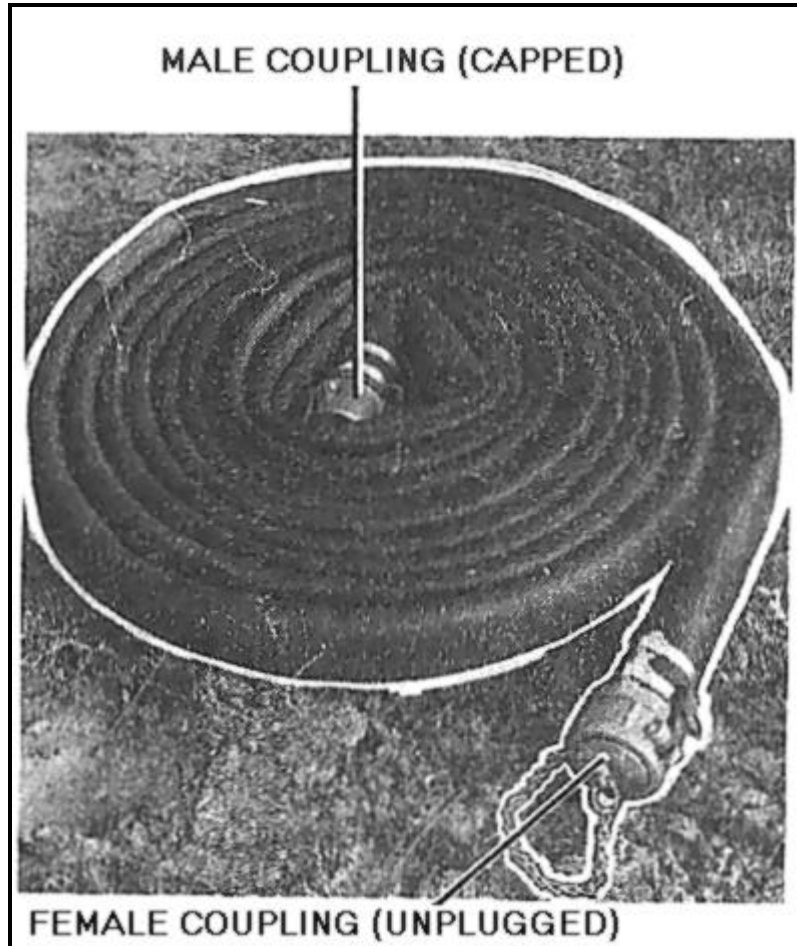

Figure 15-5. FARE discharge hose rolled for packing
- Step 5. Lift the nozzle and nozzle end of the hose. Disconnect the nozzle. Plug the nozzle inlet and set it aside. While another soldier holds the open end of the hose up, walk the fuel in the hose back toward the Y-fitting. (Lift the hose as you walk, or lay it over your shoulder, to force the fuel to drain into the container.) When the Y-fitting is reached, lift it. Holding the Y-fitting up, disconnect the drained hose. Cap the Y-outlet. Go back out the same section of the hoseline, and disconnect the coupling between the two 50-foot lengths. Roll one length of hose while another soldier rolls the other. To roll the hose, cap the male (outer) end and use the capped end as a reel to roll the hose on as shown in Figure 15-5, page 15-12. When the hose length is rolled, plug the female end.